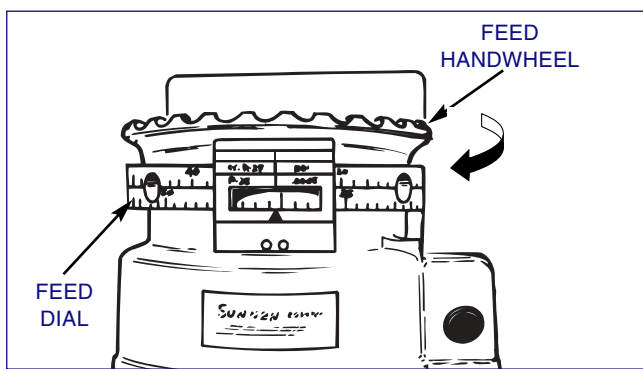

FIGURE 3-38, Feed Dial
10. Push clutch control lever rearward to start the pump and place the machine in cycle mode (see Figure 3-38).
15. Without hesitating, rotate the Feed Handwheel to the left until the load meter responds to the load (refer to Figure 3-38). As you hone more parts, you will learn what honing load the machine runs at and you will want to feed the handwheel close to this number each time you start a cycle.